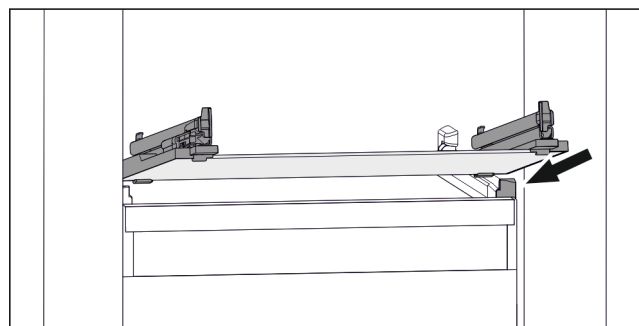

Fig. 91 Example illustration of glass shelf
- ▶ Position glass shelf at an angle behind the stoppers. (see Fig. 91)